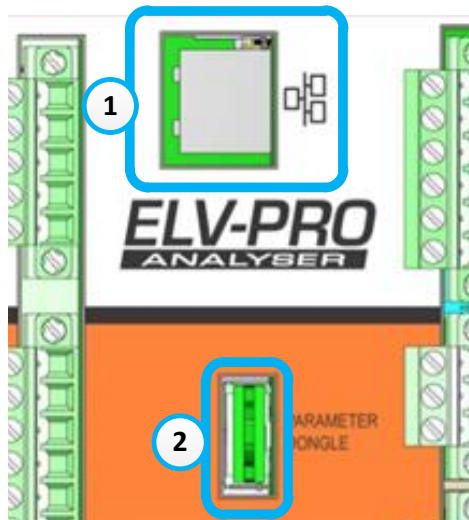

Figure 4-10: Ethernet and Dongle Connections
The ELV-PRO has a dedicated dongle input, item 2 of Figure 4-10. The dongle is keyed and therefore has a specific orientation. Refer to Figure 4-9.
The ELV-PRO has an Ethernet socket to allow the ELV-PRO to be connected to a network switch or directly to a PC or Ethernet device, see item 1 of Figure 4-10.